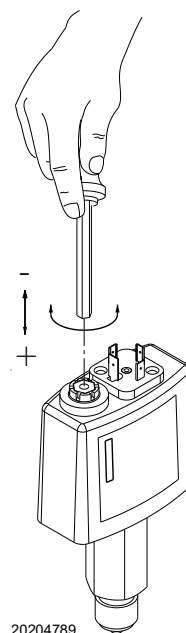

Fig. 37
5.11.4 Minimum oil pressure switch (Fig. 37)